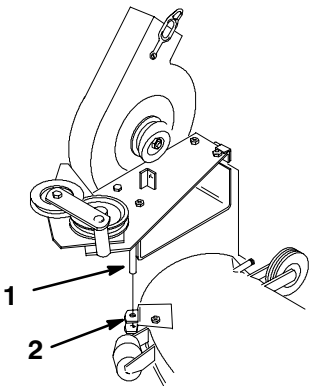

Figure 2
2. Remove the blower by lifting the pivot pin out of the pivot support (Fig. 2).